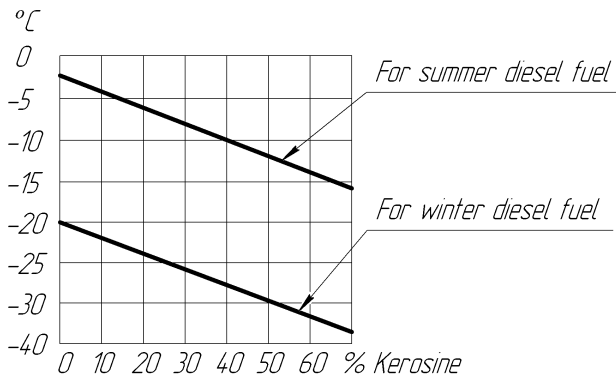

Figure 12 - Amount of kerosene mixed with diesel fuel, depending on the ambient temperature.
12.2 Reliable operation of heater depends on the type of fuel used. Type of fuel should be in accordance with GOST 305-82, depending on the ambient temperature (see Table 5). May be used and the mixture of fuel according to Figure 12.